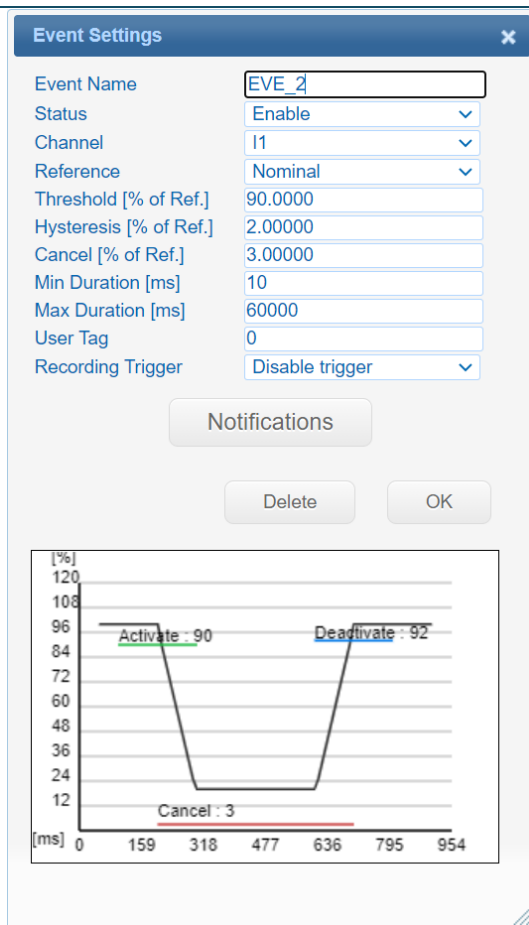

Figure 5-7: Event Settings Window – 1
- 2 Select the classification (type) of the event by clicking one of the displayed buttons. Figure 5-7 shows a new event with the Event Name created when clicking Add New Event and selecting a **Dip** event type.